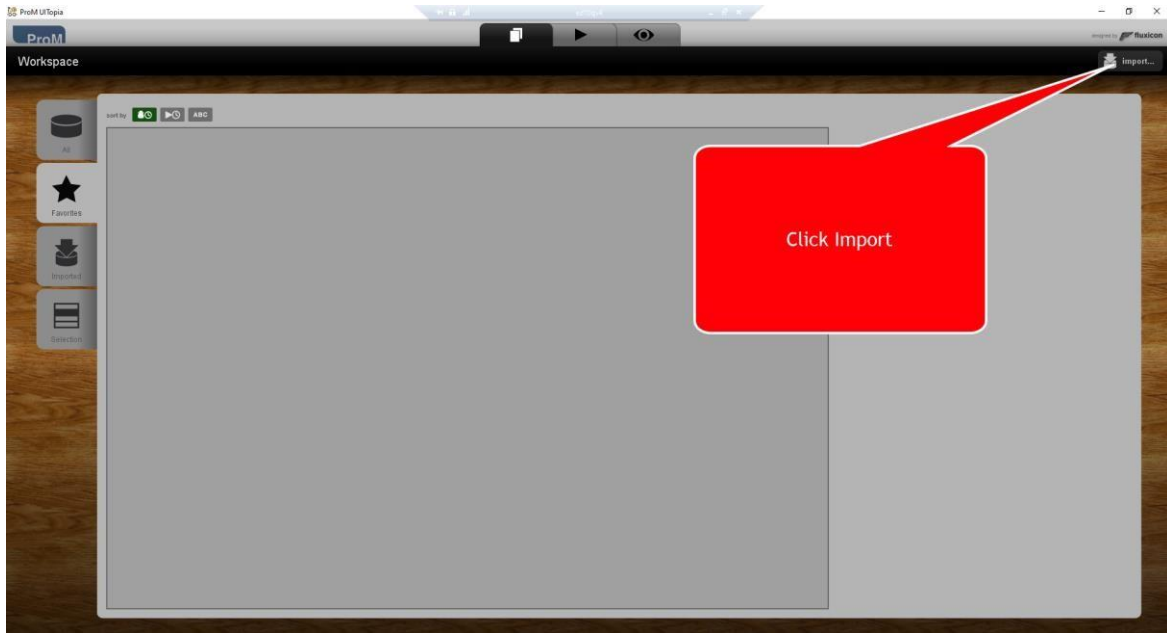

Figure 5 - Image of ProM application for importing event logs.
1. Once ProM is installed and open, the prepared event logs can be installed by clicking the import button as seen in Figure 5.